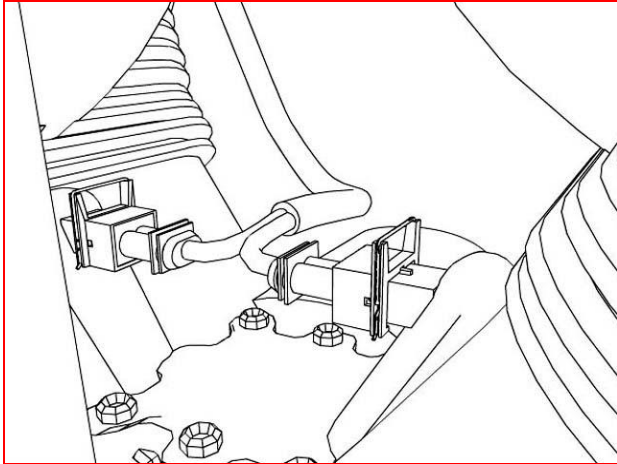

Figure 6
8. View from left, stock. (fig 6)